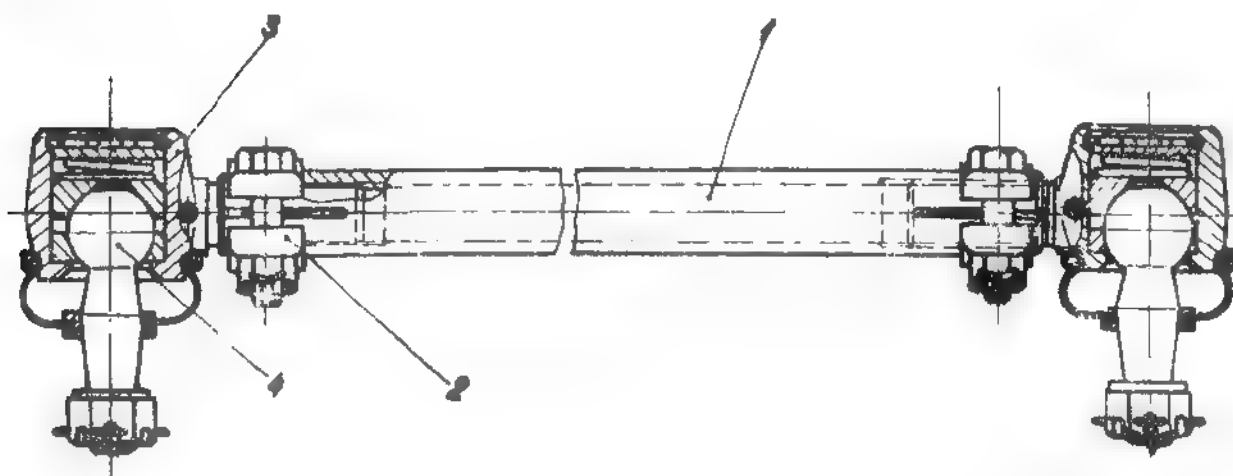

Fig. 4.145. DRAGLINK ASSY
- see Fig. 4.145 - the latter should be dismantled. For this: